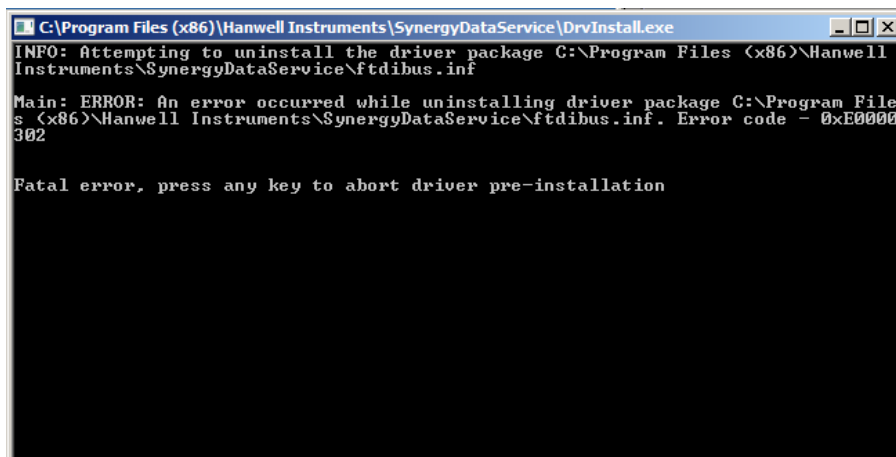

Figure 197
- If a **Command Prompt** is displayed with a fatal error message, see Figure 197 below, click in the Command Prompt (C:/) and press **Enter**.